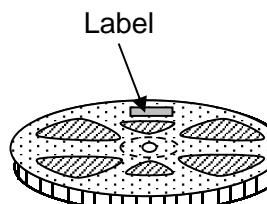
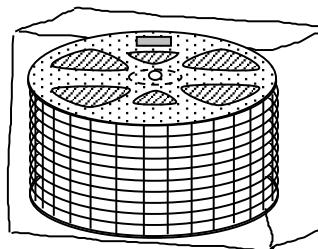

Figure.1
Figure.2
5. Reel Label (please refer to Figure1, Figure2)